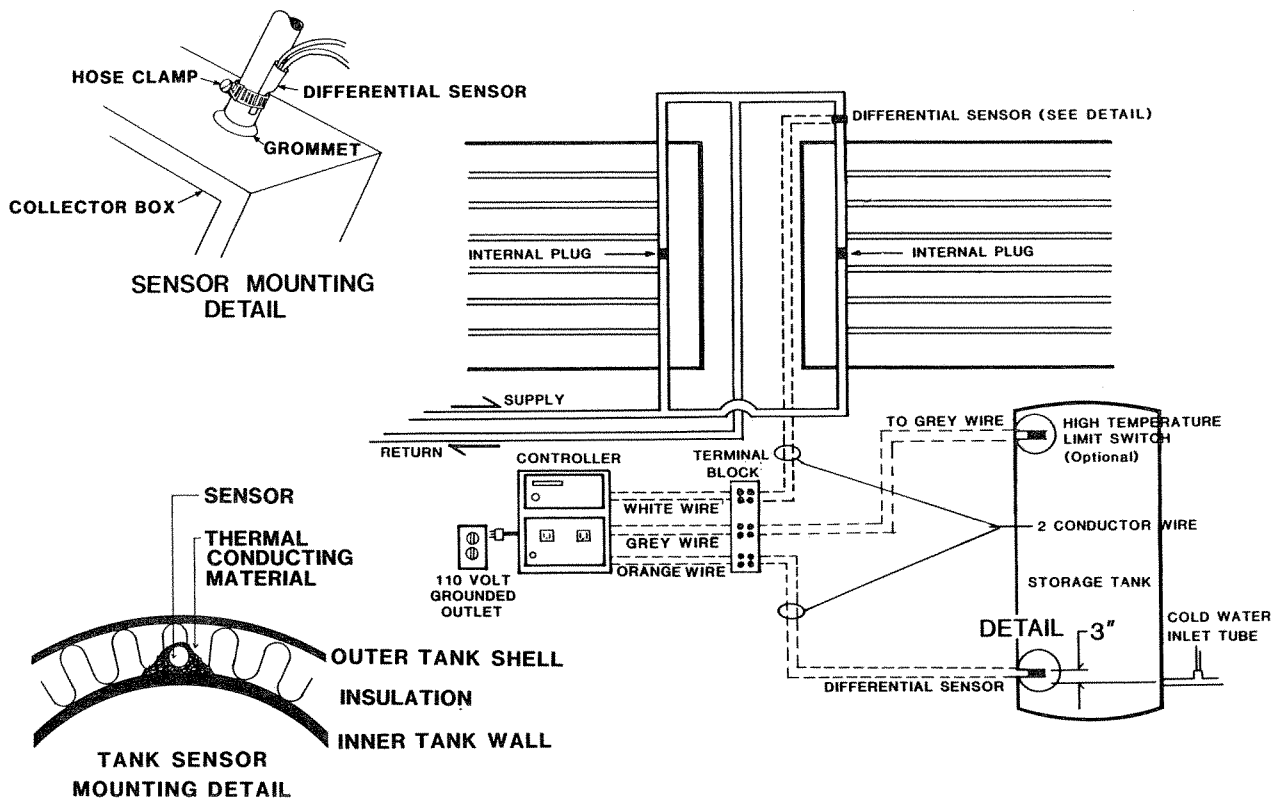

Figure 2.42
7. You may wish to add an optional high-temperature switch to limit storage water temperature for safety and to extend tank life (this may be a tank warranty requirement). Consult the instructions supplied with the controller for specifics, and refer to Figure 2.42.